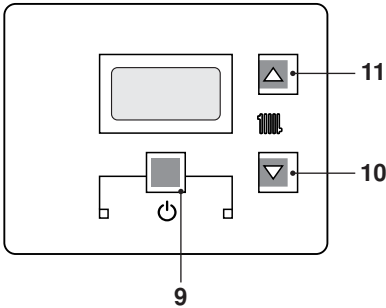
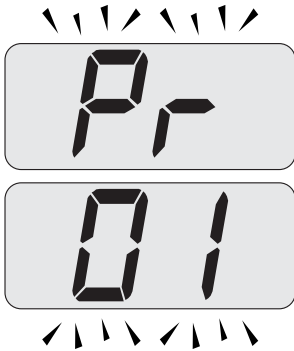
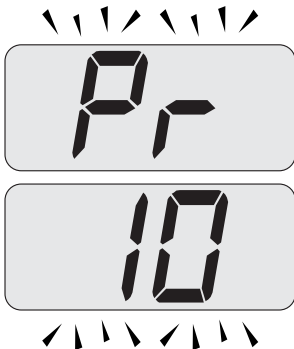

Fig. 7.32
Fig. 7.33
Fig. 7.34
- Enter the "programming mode" by pressing keys 9- 10- 11 (Fig. 7.32) for 10 seconds at the same time until the letters **Pr** that alternate with code **01** are displayed on the LCD display, indicating that "parameter 01" (Fig. 7.33) has been activated.
- Scroll the various parameters using keys 10 or 11 until the letters **Pr** that alternate with code **10** are displayed on the LCD display, indicating that "parameter 10" (Fig. 7.34) has been activated.
- Press keys 9 and 11 (Fig. 7.32) at the same time until the value of parameter 10 (30=180 seconds) is displayed on the LCD display (Fig. 7.35).
- By pressing key 9 (Fig. 7.32) confirmation of the inserted value is obtained.
- Press keys 9 and 10 (Fig. 7.32) at the same time to exit without changing the value (return to the parameters list Fig. 7.34)
- Press keys 9- 10- 11 (Fig. 7.32) at the same time for 10 seconds to exit the "programming mode".